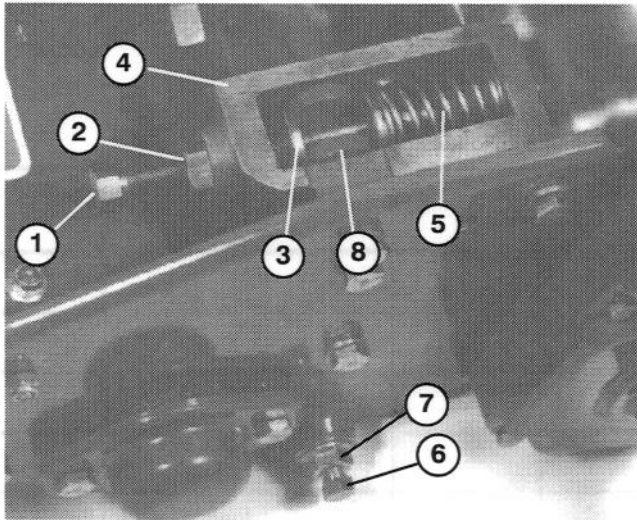

Figure 43
2. Loosen jam nut securing each bed bar adjusting screw to each frame adjuster (Fig. 43).
3. Loosen each bed bar adjusting screw until thrust washer bottoms out on frame adjuster (Fig. 43).
4. Using a spring compressor or clamp, compress springs on bed bar adjusting screws to free bed bar from frame adjusters (Fig. 43).
5. On each side of machine, loosen the jam nut securing bed bar bolt (Fig. 43)